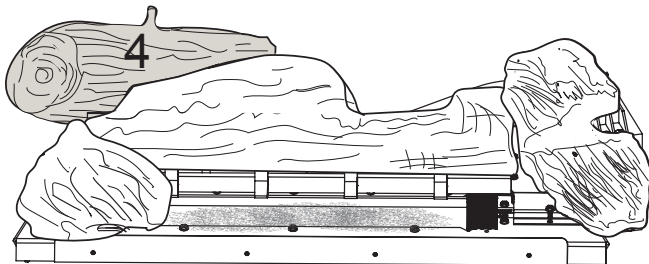

Figure 6.14 - Log #4 Placement
5. Hold log #4 with the pointed end toward the right. Place log #4 by positioning the pin locator hole on the bottom of the log over the rear left pin on the burner assembly toward the back and resting the left end of the log over log #3. Make sure that the flat surface on the back of the log rest against the rear bend on the burner assembly. See Figure 6.14.